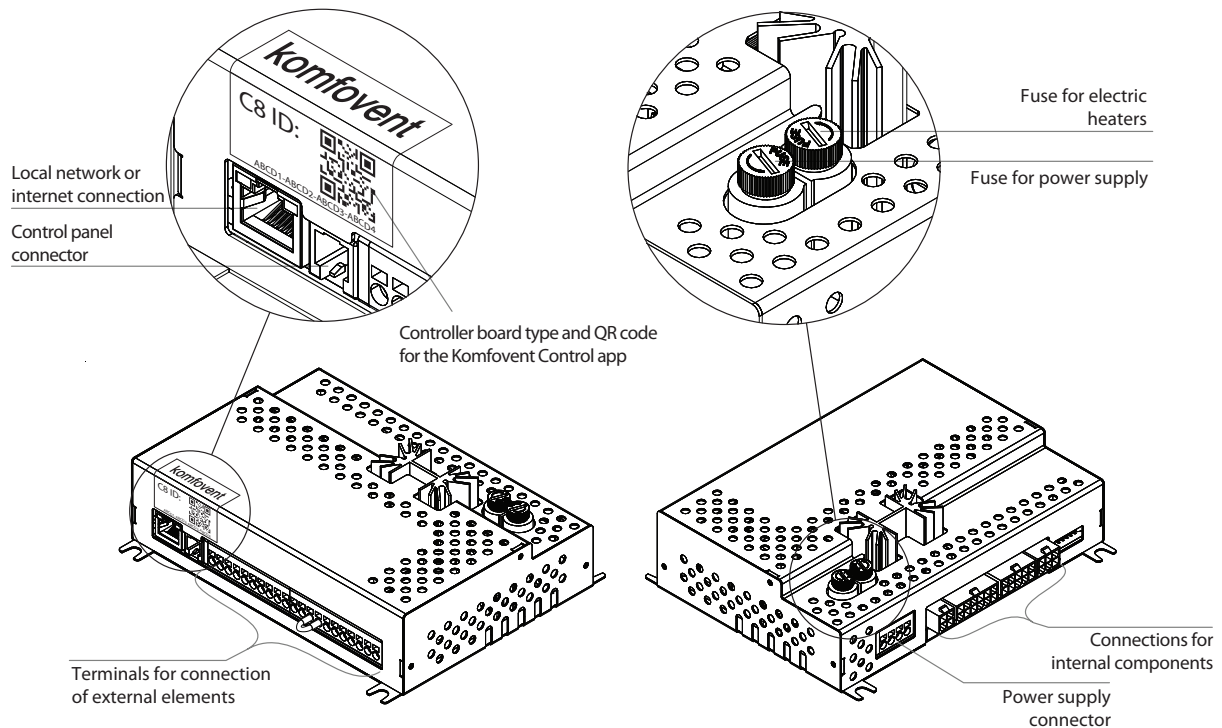

Fig. 10. C8 controller main board
- The terminal numbering shown here only applies for C8 controller board. Before connecting the external elements, check the board type on the sticker in the front of the controller (see Fig. 10).
It is advisable to run the control panel cable in such a way that it does not go near the power supply wires or high voltage electrical equipment (electrical inlet cabinets, electric water heating boiler, air conditioning unit, etc.). The cable can be passed through the holes in the back or bottom of the control panel (follow the installation instructions supplied with the control panel). The wire to C8 controller board is connected to a dedicated slot (RJ9 connector; see Fig. 10) or to the terminals for external connections.
The unit can be controlled not only by the control panel, but also by computer or smart phone. In such cases, the air handling unit must be connected to an local computer network or to the Internet. The unit is controlled by a computer using a web browser, or a smartphone with a Komfovent Control app. The air handling unit is connected to the computer network with a CAT5 type cable (RJ45 connector; see Fig. 10). The total cable length between the unit and the network router must not exceed 100 m.
- The easiest way to manage your unit over the internet is to use a smartphone with the Komfovent Control app. Launch the app on your phone (the phone must have Internet access). When you connect for the first time, the app will ask you to scan the QR code at the front of the controller board (see Fig. 10). When you scan the code, the app will automatically establish the connection to the unit (for more information on the Komfovent Control app, see “Domekt User Guide”).